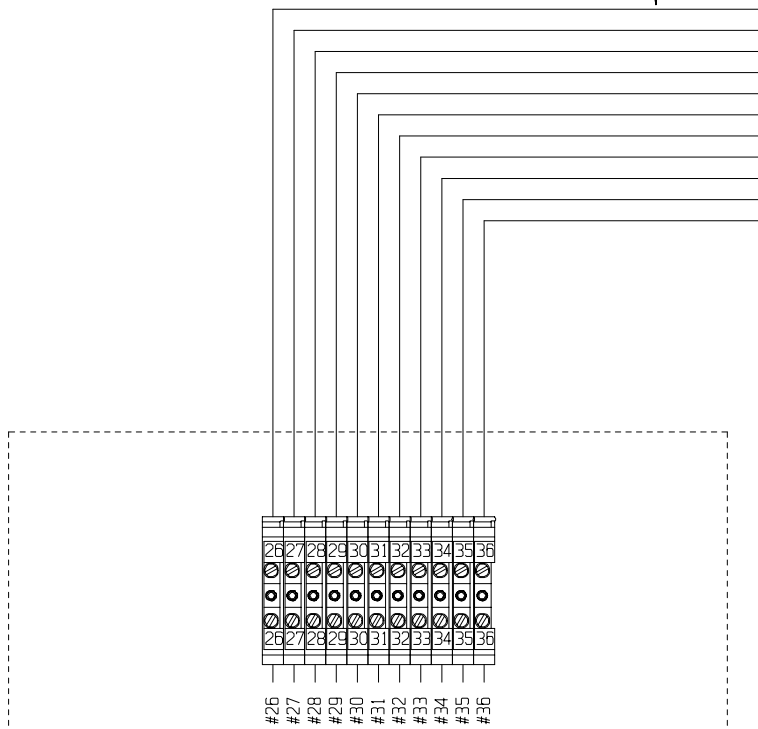

Figure 24
- 1) Run eleven (11) control wires from the Autoflow Control Box to the Fill System Control Box.
- 2) Connect the wires as shown in figure 24.